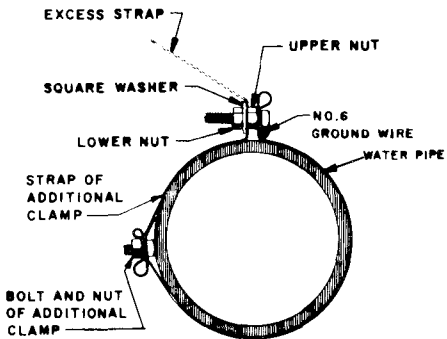

Fig. 44—Attaching L Ground Clamps to Pipes Larger Than 3 Inches
- (6) Mount the square washer and lower nut on the bolt of the initial clamp and tighten the nut. (On pipes larger than 3 inches, fasten two straps together as shown in Fig. 44)